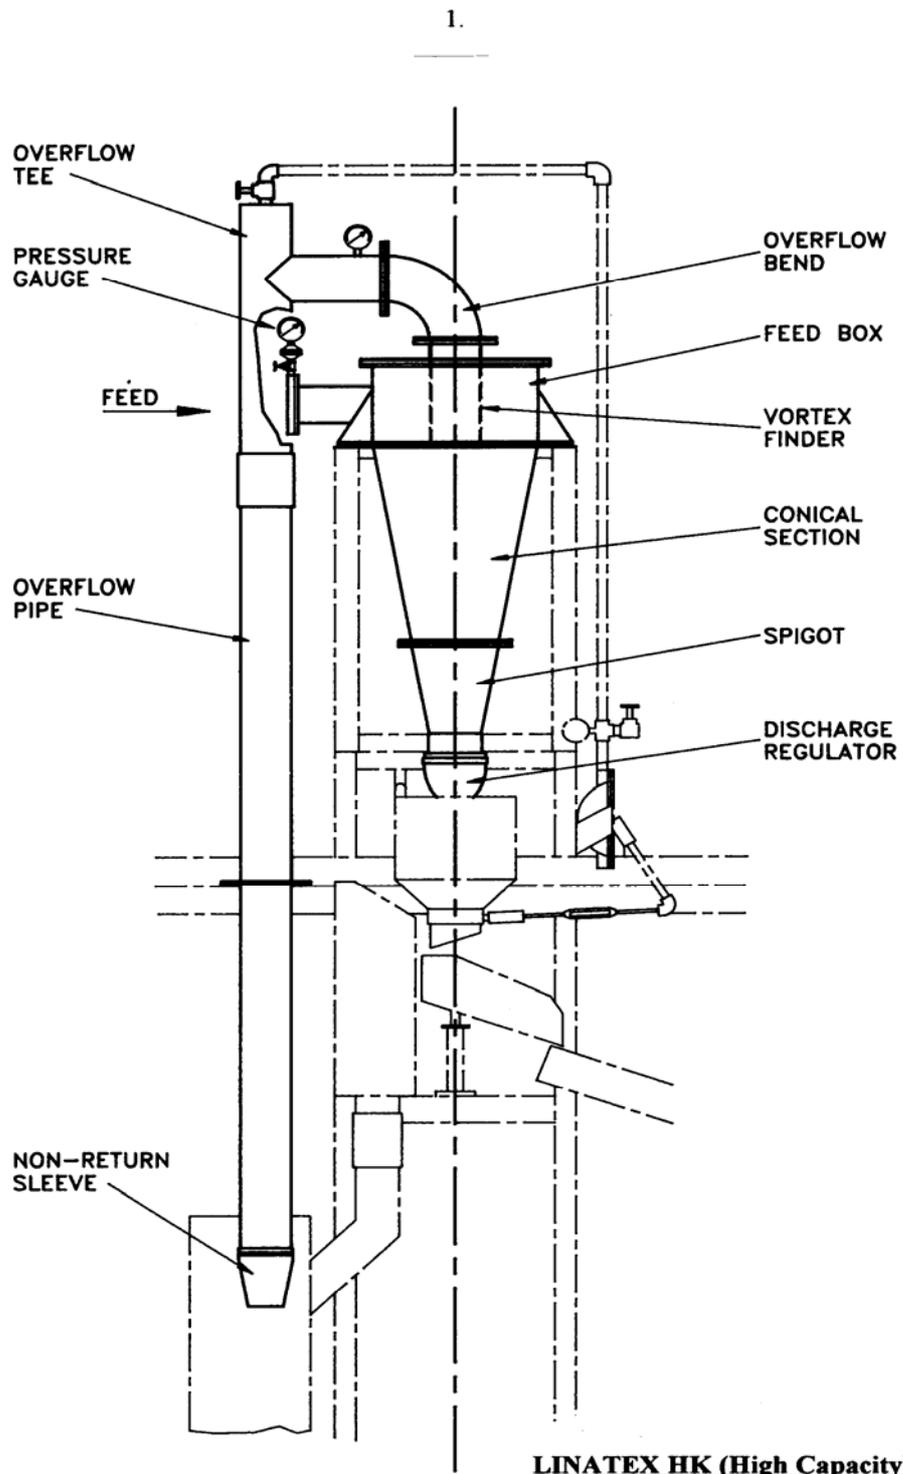

figure 1
- 1.1 The Linatex HK Separator (see fig.1) comprises a feed box with a tangential entry. Below this is a cone terminating in a spigot fitted with a discharge regulator. Above the feed box is a plate which supports the vortex finder. The latter projects into the feed box. Above the plate is an overflow bend (or overflow box on a MK II separator) providing an outlet. The overflow pipework leads from the outlet to a point about 2m (6ft) below the discharge regulator.